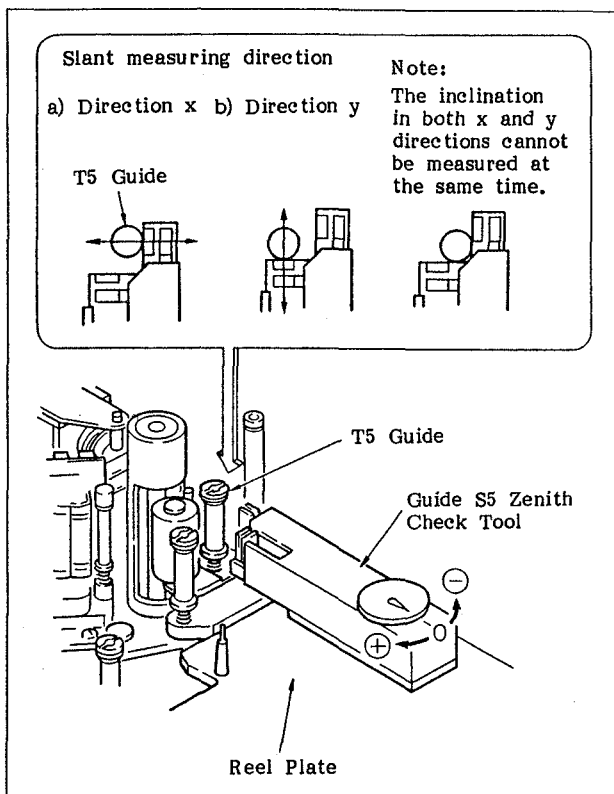

Fig. 6-84 Checking the Inclination of the T5 Guide
- Push the guide S5 zenith check tool against the T5 guide, as shown in Figure 6-84. Check that the inclinations in the x and y directions meet the following specifications.
- If it does not, loosen the set screw of the T5 guide shown in Figure 6-84, and then adjust the height of the lower flange by rotating the flange holder.